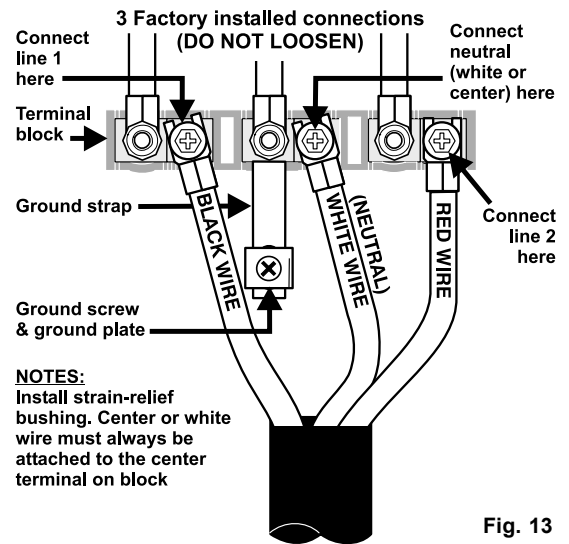

Fig. 13
### (3-Wire Connection Instructions . For existing installations ONLY - Refer to Fig. 13).
2. Insert the end connectors for Line 1, Line 2 and Neutral and tighten securely to the terminal block (See Fig. 13).
**Grounding Instructions (3-Wire Connections only):** A ground strap is installed on this range which connects the center terminal of the terminal block (Neutral) to the range chassis. The ground strap is connected to the range by the center, lowest screw (See Fig. 13). The ground strap must not be removed unless National, State or Local Codes do not permit use of a ground strap.